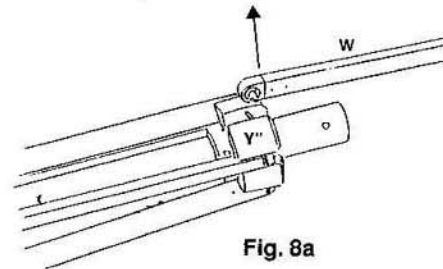

Fig. 8a
3. Rotate the rib (W) 180° and release the other end from the band (Y'') pulling firmly upwards (fig. 8a).